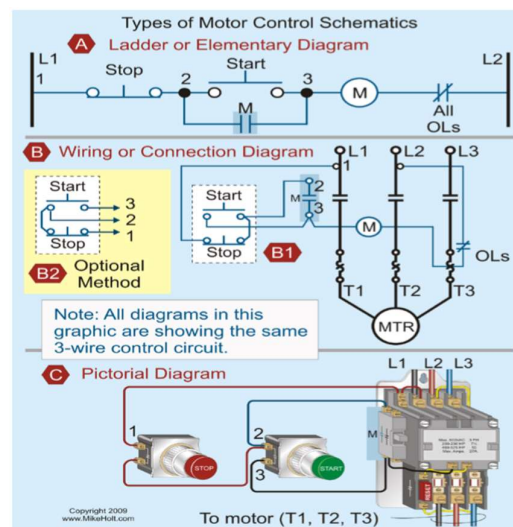

Figure 3. Types of Motor Control Schematics
Motor control circuits are an effective way to reduce cost by using smaller wire and reduced-amperage devices to control a motor. Imagine trying to wire a pushbutton station for a 100A motor using 3 AWG conductors. Many smaller motors use the same size conductors for both control and power circuits, but as the horsepower increases it becomes impractical to do so. Motor control circuits are often connected to lower voltages than the motor they control to make it safer for operators and maintenance personnel. A motor control circuit, for the most part, is simply a switch (or group of switches) and a motor. Many control circuits include motor overload protection devices. Traditional overload (OL) protectors operate on the relationship between heat and current. As current increases, heat increases. If an overload device is rated 10A, and the current exceeds that rating, the OL device will operate to open the circuit because of the increased heat caused by the current running through it. A magnetic starter or other motor controllers may include overload devices, or they may be an integral part of the motor, particularly with small motors. Electrical symbols, words, and line diagrams provide the information necessary to understand the operation of motor control circuits. Used together, they create a type of motor control “language” that is used to transfer information and ideas quickly and efficiently. The symbols in motor control schematics represent devices, power conductors, control conductors, conductor connections and terminals, and sometimes the motor itself. The basic types of schematics are shown in Figure 3.
Pictorial diagrams are often used in educational material and as exploded views or cut-away views in installation and maintenance literature. Pictorial diagrams help students see actual devices and components used in motor control circuits and how they relate to the symbols used in ladder diagrams and wiring diagrams. Different manufacturers of control devices use different methods of showing the control circuit wiring. For example, in Figure 3B1, the control wiring from the start-stop pushbutton station runs to the actual connection points 1, 2, and 3. As the wiring diagrams become more complicated, the optional method shown in Figure 3B2 is frequently used to show the connection points for the start-stop pushbutton station.